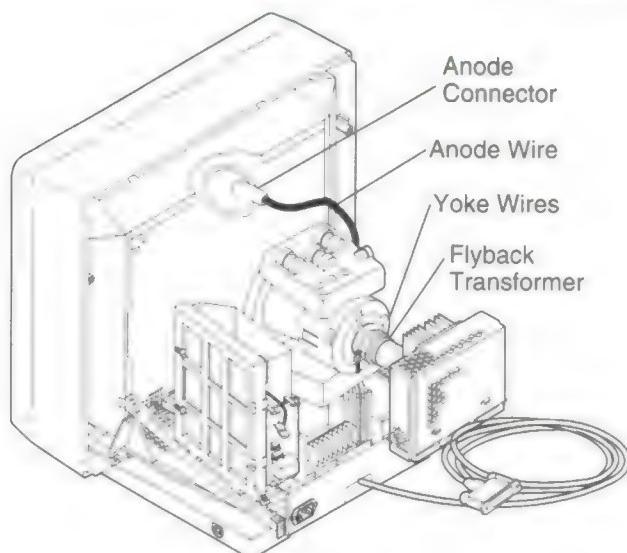

Figure 37. Apple Multiple Scan 20 Adjustments
Indicator Lights (see Figure 37)	Solutions
1. Press the plus (“+”) button to increase the brightness or contrast (see Figure 37).
2. Press the minus (“−”) button to decrease the brightness or contrast (see Figure 37).
1. Press the select button (marked with “⌘”) to turn on the centering indicator light (see Figure 37).
2. Press the plus (“+”) or minus (“−”) button on the brightness controls to move the center of the picture up or down, or the contrast controls to move the center of the picture right or left (see Figure 37).
2. Press the plus (“+”) or minus (“−”) button on the brightness controls (for vertical size) or contrast controls (for horizontal size) to increase or decrease the size of the picture (see Figure 37).
1. Press the select button (marked with “⌘”) repeatedly until the rotation indicator light goes on (see Figure 37).
1. Press the select button (marked with “⌘”) repeatedly until the convergence indicator light goes on (see Figure 37).
1. Press the select button (marked with “⌘”) repeatedly until the color temperature indicator light (see Figure 37) goes on.
2. Press the plus (“+”) button on the contrast controls to increase the color temperature (see Figure 37).
3. Press the minus (“-”) button on the contrast controls to decrease the color temperature (see Figure 37).
You can reset brightness and contrast to their factory levels. However, you cannot reset one or the other. You must reset both controls. Use a straightened paper clip to push in the Reset button (see Figure 37).
1. Press the select button (marked with “⌘”) repeatedly until the indicator light of the picture control you want to reset (vertical or horizontal center, convergence, or color temperature) goes on (see Figure 37).